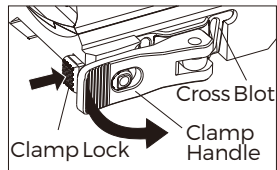

Fig6-1
2. Designed with our patented nonlinear cam clamping system, no tools are required for attaching to a rail. Push locking button, lift up handle to loosen the locking bar. To mount sight on rail, push the handle down, locking button will automatically engage. The installation is complete.(fig 6-1)